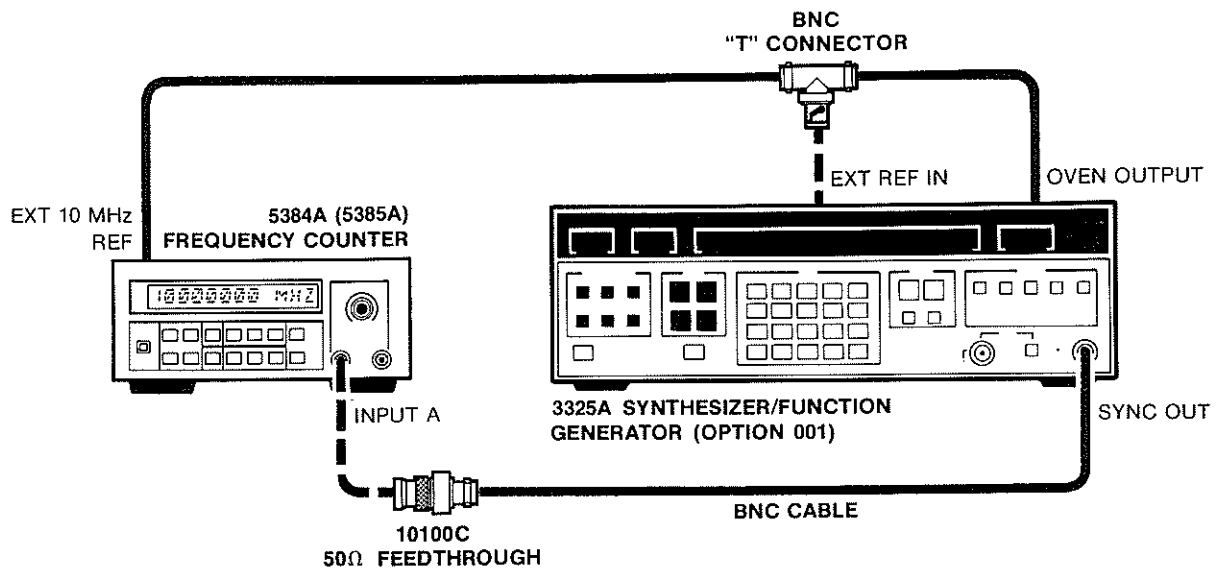

Figure 4-6. Channel A Filter and Attenuator Test Setup
2. Connect the 3325A Synthesizer/Signal Generator to the 5384A/5385A channel A input as shown in Figure 4-6.